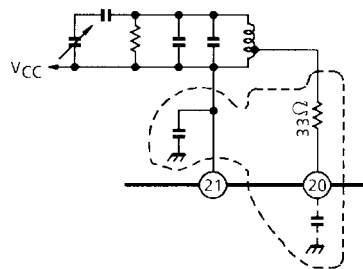

Figure 1
- (1) When signal source impedance is high referring to the IC (pin 24), radiation or feedback, resulting from signal loop for mixer output (pin 4) IF trans, make a mixer circuit unstable. To prevent generating beat due to the above, insert a series resistor for AM input (pin 24) or lower the second antenna coil impedance.
- (2) Insert a resistor (33 Ω) next to the AM OSC pin (pin 20). In the lower part of the frequency range, if the load impedance of the oscillator circuit drops lower than that of the parasitic circuit (indicated by the dots in Figure 1), oscillation frequency of the parasitic circuit may stop. To avoid signals not being received due to the above, insert a resistor to lower the Q of the parasitic circuit.